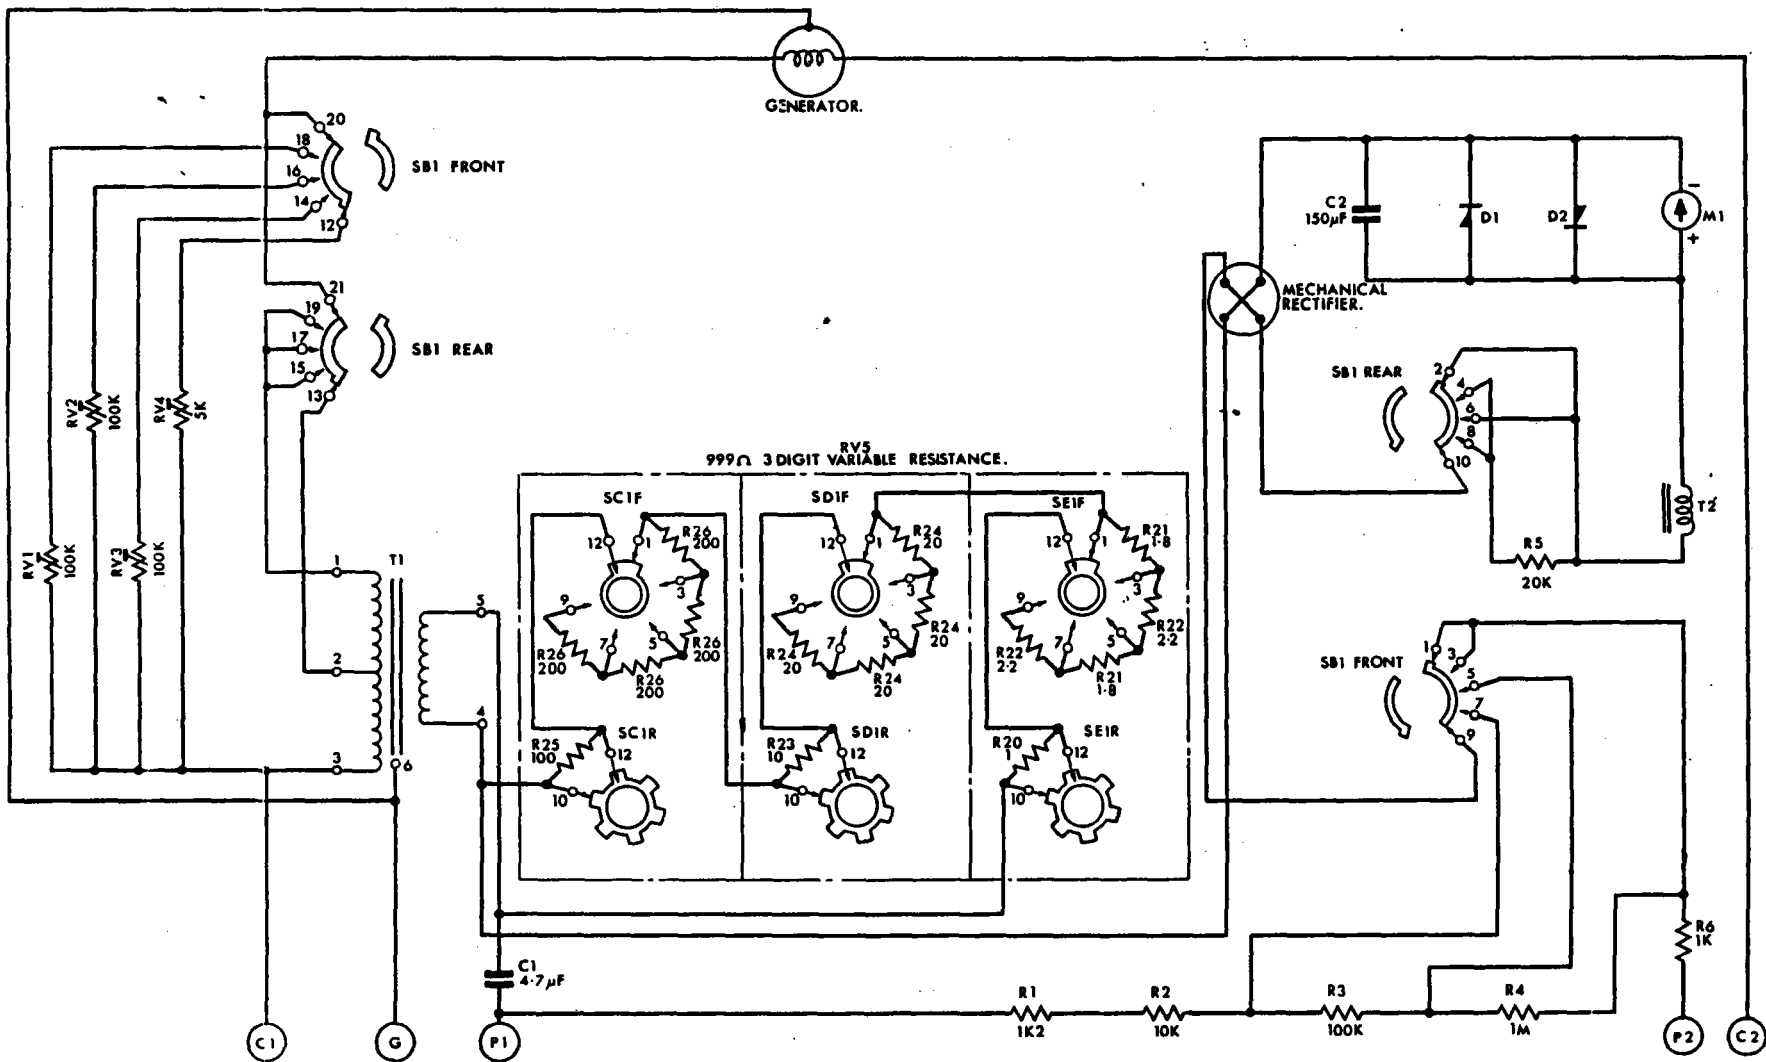

Figure 4-1. Schematic Diagram of Hand-Cranked Earth Tester.
a. **HAND-CRANKED EARTH TESTER.** The hand-cranked earth tester is an indicating instrument having an alternating current generator with a mechanical rectifier, a gear train and fold-away crank for operating the generator, and a resistance network. (Refer to Figure 4-1 for a schematic diagram of the hand-cranked earth tester.)
3. **RESISTANCE NETWORK.** Figure 4-1 shows the schematic diagram with the resistance network.
a. **HAND-CRANKED EARTH TESTER.** (Refer to Figure 4-1.) The test current from a hand-cranked ac generator is passed through the ground under test, the soil, and back through the C2 terminal. This test current also passes through the primary of a current transformer from the secondary of which a current is applied across the adjustable internal resistance, developing a potential in opposition to the external potential developed by the test current between the earth electrode and a potential rod connected to terminal P2. The unbalanced ac current is mechanically rectified to drive the zero-center meter. The adjustable resistance is calibrated in ohms, and when the meter is at balance the earth electrode resistance is read directly from the resistance decade switches and range multiplier switch.